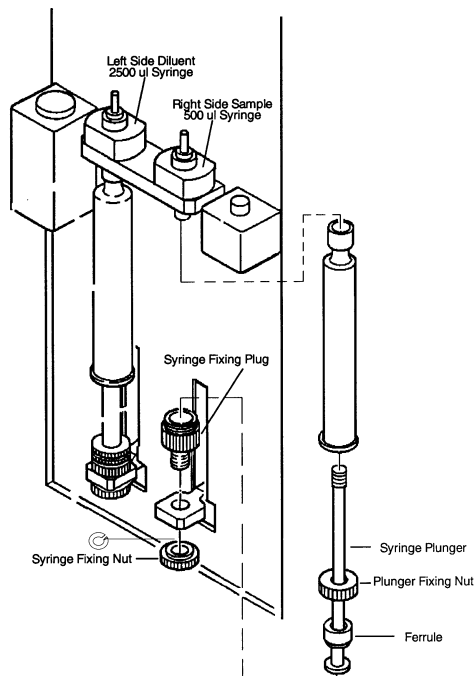

Figure 5-13. Syringe Components
8. ☐ Unscrew the syringe fixing nut on the syringe you want to remove (refer to Figure 5-13).